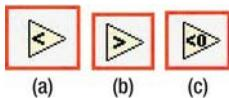

Figure 10-14. (a) The Less? Function, (b) the Greater? Function, and (c) the Less than 0? Function
- *Less?*—This function compares a value x to a value y and tests whether x is less than the y value (see Figure 10-14(a)).
- *Greater?*—This function compares a value x to a value y and tests whether x is greater than y (see Figure 10-14(b)).
- *Less than 0?*— This function compares a value x to zero (see Figure 10-14(c)).